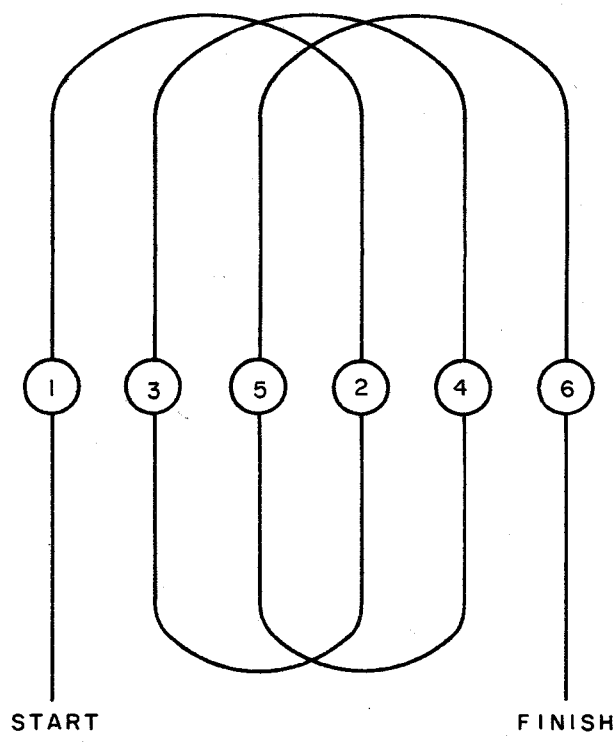

Figure 5. Tilling Pattern
- The pattern shown in Fig. 5 should be followed for typical homeowner's vegetable gardens. The second pass should follow the same pattern, but start from left to right.